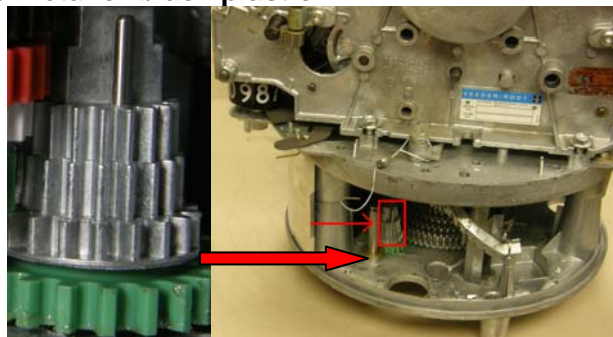

Figure 2b: Dollar Drive Shaft Gear Location
- 4.) Locate the dollar drive shaft. It is adjacent to the post the colored gear stack was mounted on (see Figure 2b). Remove the cotter pin and slide the spacer up the dollar drive shaft and hold it there. Remove the dollar drive shaft vertical pin and tape it to the top of your computer. Lower the spacer and reinsert the cotter pin and secure it.